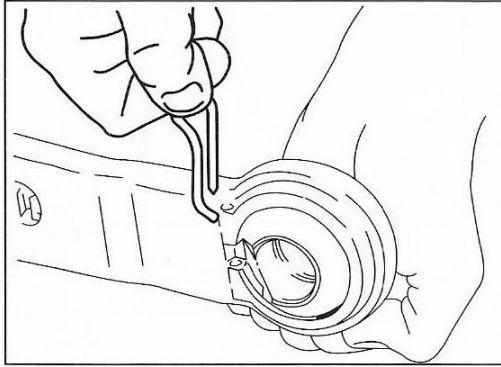
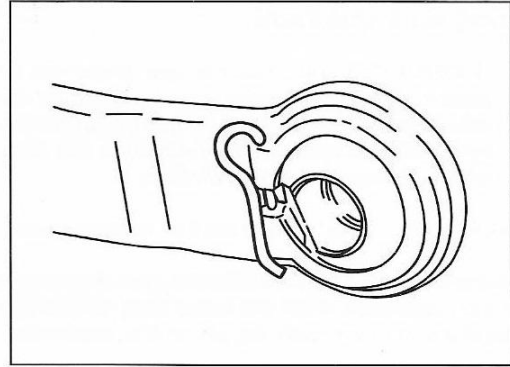

Fig. 52
Fig. 53
To change ball ends (Fig. 52 and Fig. 53) from Category 1 to Category 2 or vice versa, proceed as follows:
1. Pull the spring clip (Fig. 52) upwards, as shown.
3. Fit the new ball by locating it with the narrow section in line with the slot, then refit the spring clip (Fig. 53) as shown.